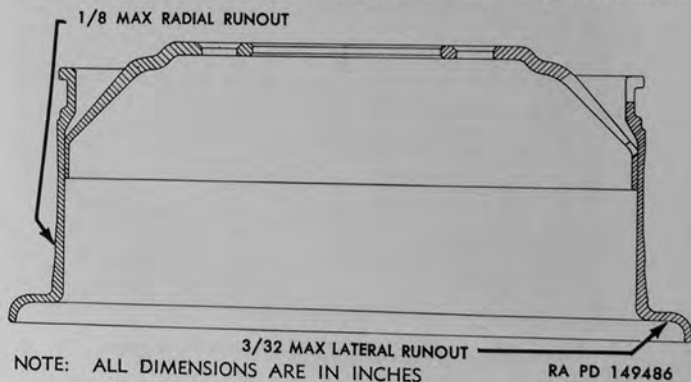

Figure 181. Wheel (disk and rim assembly) showing checking points.
fixture and check for lateral runout (wobble) and for radial runout (out-of-round) at points shown in figure 181. If wheel is only slightly distorted or if rivets are loose, wheel can be repaired (*b* below). If badly damaged, replace with new part.
b. Repair.—If adequate equipment is available, wheels that are slightly distorted can be straightened. Lateral and radial runout must not exceed maximum limits shown in figure 181. Tighten or replace any loose rivets attaching disk to rim.